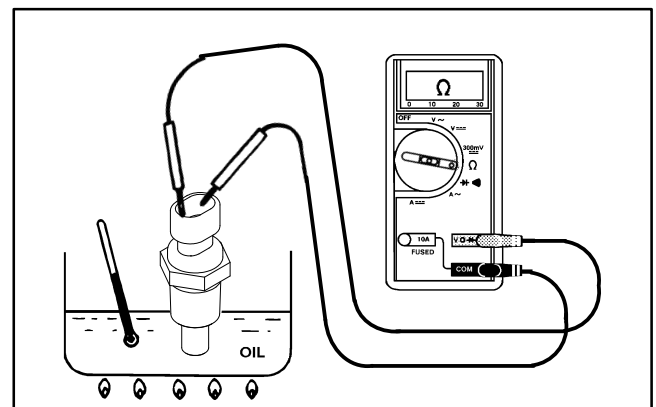

Figure 68
4. Put sender in a container of oil with a thermometer and slowly heat the oil (Fig. 68).